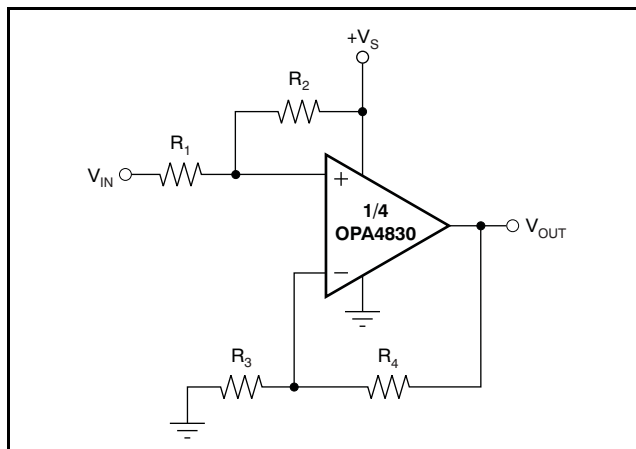

Figure 75. DC Level-Shifting
Figure 75 shows a DC-coupled noninverting amplifier that level-shifts the input up to accommodate the desired output voltage range. Given the desired signal gain (G), and the amount V_{OUT} needs to be shifted up (ΔV_{OUT}) when V_{IN} is at the center of its range, Equation 1 and Equation 2 give the resistor values that produce the desired performance. Assume that R_4 is between 200Ω and 1.5kΩ.